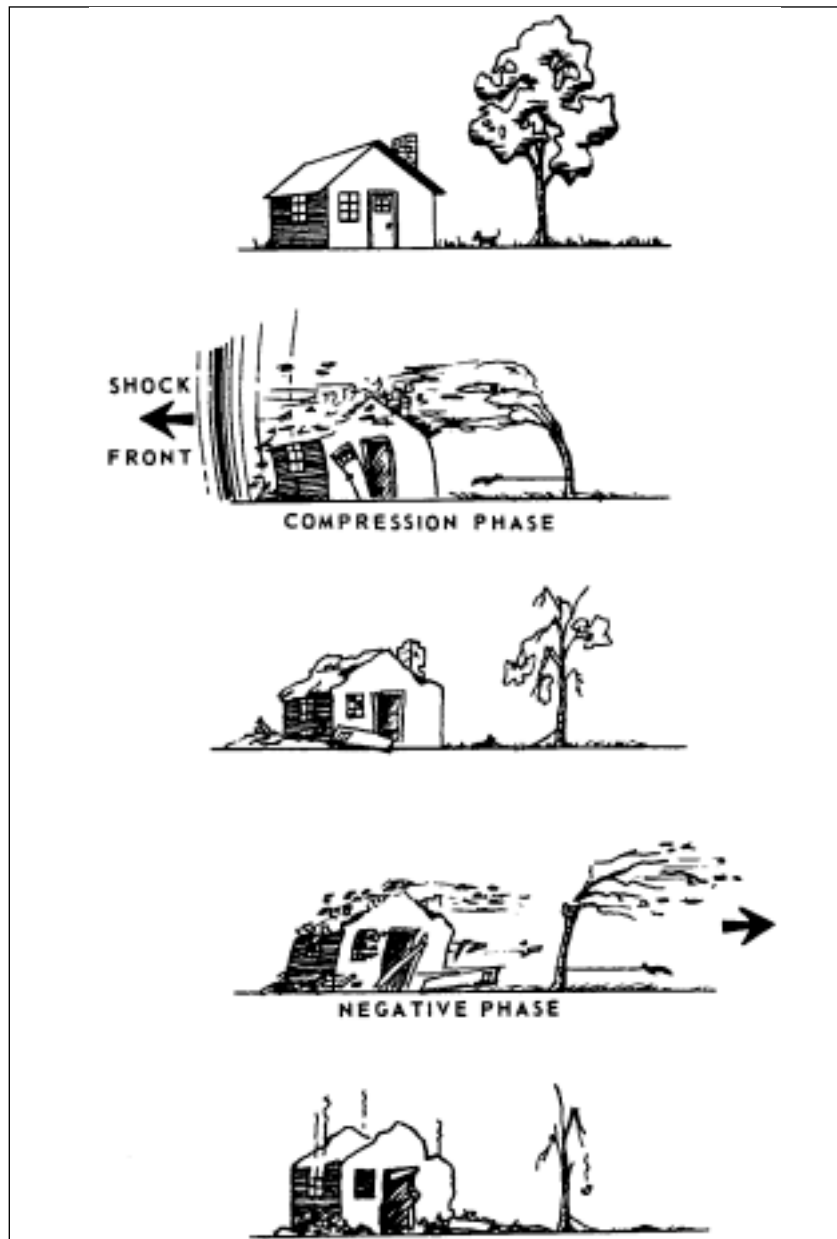

Fig 1-1. Blast waves.
- Compression Phase. The extreme intensity of the blast raises the atmospheric pressure (normally 14.7 pounds per square inch (psi) at sea level) by about 10 psi. This effect is known as an **overpressure**, or the **compression phase** as in the first two graphics in fig 1-1.
- Negative Phase. As the fireball burns, it consumes so much oxygen that it sucks air in and creates an **underpressure**, or the **negative phase**. The initial blast wave reverses direction, adding to the explosive force and destructive effect (fig 1-1).